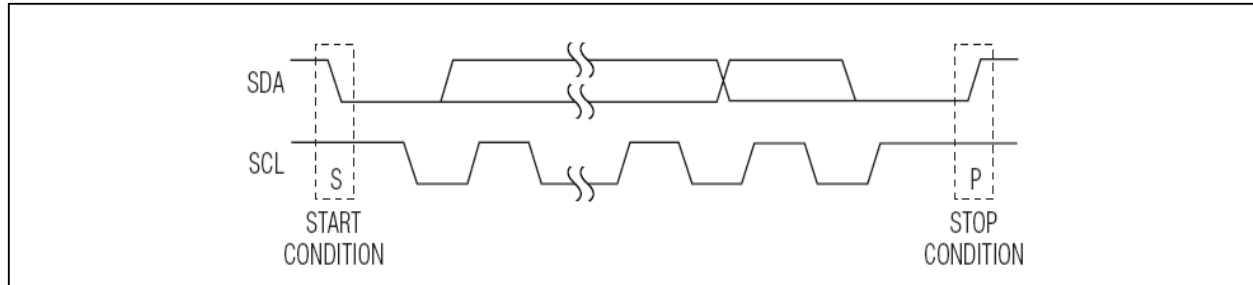

Figure 4 START and STOP Conditions
SDA operates as both an input and an open-drain output. A pull up resistor, typically 4.7k Ω , is required on SDA. SCL operates only as an input. A pull up resistor, typically 4.7k Ω , is required on SCL if there are multiple masters on the 2-wire interface, or if the master in a single-master system has an open-drain SCL output. Each transmission consists of a START condition sent by a master, followed by the IS31IO7328's 7-bit slave addresses plus R/W bits, 1 or more data bytes, and finally a STOP condition (see Figure 4).
Both SCL and SDA remain high when the interface is not busy. A master signals the beginning of a transmission with a START (S) condition by transitioning SDA from high to low while SCL is high. When the master has finished communicating with the slave, the master issues a STOP (P) condition by transitioning SDA from low to high while SCL is high. The bus is then free for another transmission (see Figure 4).